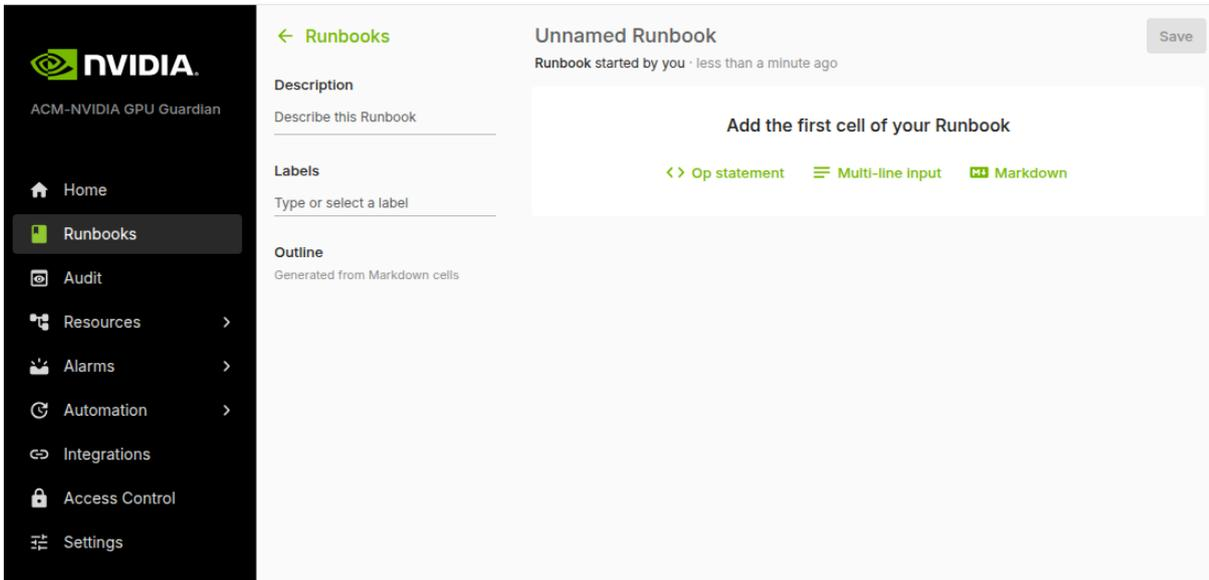

Figure 6.17: Web GUI for autonomous hardware recovery: creating a new runbook
- A new runbook is created by clicking on the New Runbook button, and then on the `op statement` option (figure 6.17):